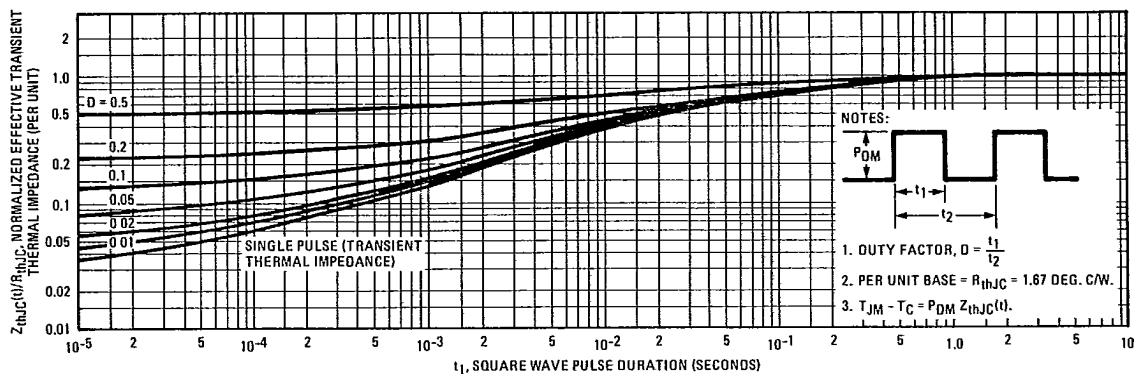

Fig. 5 - Maximum Effective Transient Thermal Impedance, Junction-to-Case Vs. Pulse Duration
③ Repetitive Rating: Pulse width limited by max. junction temperature. See Transient Thermal Impedance Curve (Fig. 5).